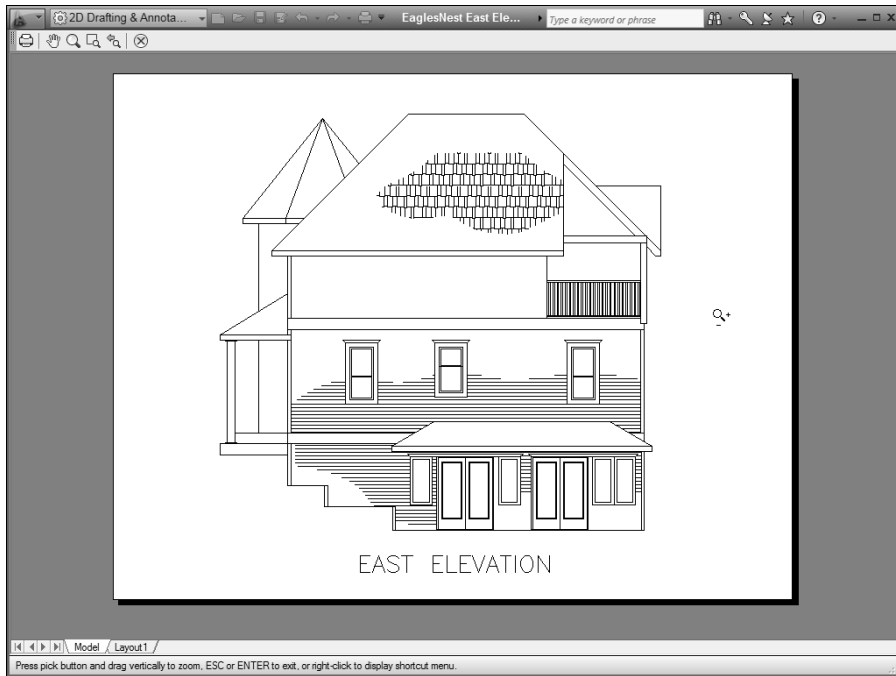

Figure 16-4:
- 14. Click the Preview button and check that the drawing displays on the paper at the correct orientation and size, as shown in Figure 16-4; then right-click and choose Exit to return to the Plot dialog box.**